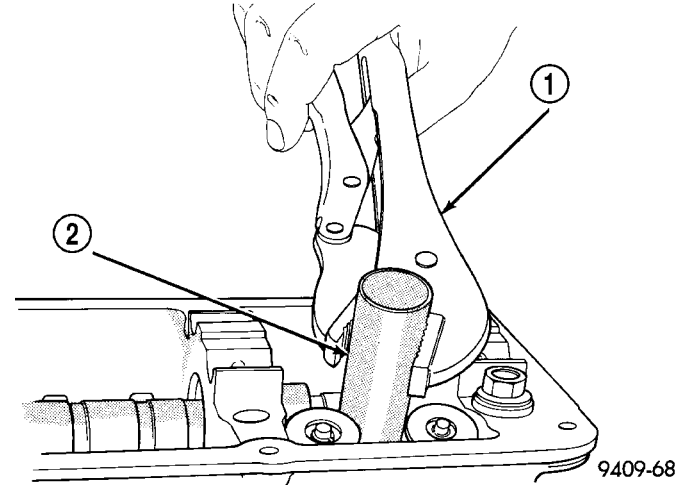

Fig. 34 Spark Plug Tube - Removal
(1) Remove the cylinder head cover. (Refer to 9 - ENGINE/CYLINDER HEAD/CYLINDER HEAD COVER(S) - REMOVAL)
(2) Using locking pliers, remove the tube from the cylinder head (Fig. 34). Discard old tube.